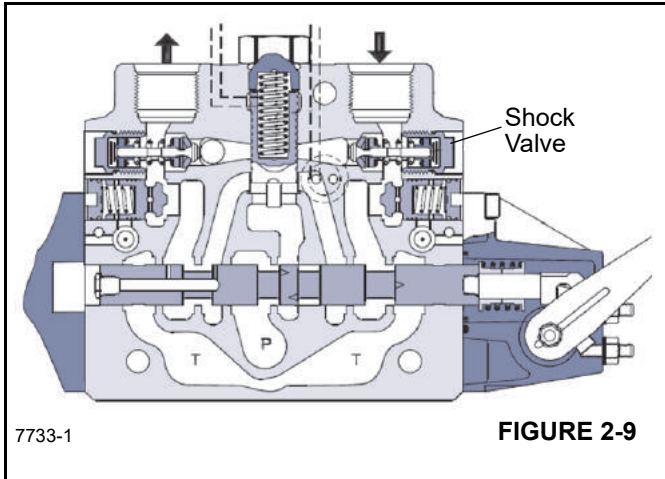

FIGURE 2-9
- a. For the Boom, Telescope, and Hoist sections reference Figure 2-9. These sections have shock valves on each side of the valve section - directly opposite of each other, with shock valves facing horizontally.